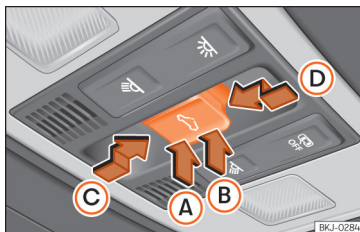

Fig. 96 On the interior roof lining: sunroof button.
The ⇄ button ⇄ **Fig. 96** has two levels. The first level switches the sunroof to the tilted position, opening or closing it fully or partially.
- Within approximately 5 seconds of having activated the roll-back function, press the ⇐ »» Fig. 96 button to the second level in the direction of arrow »» Fig. 96 Ⓧ until the sunroof closes completely.